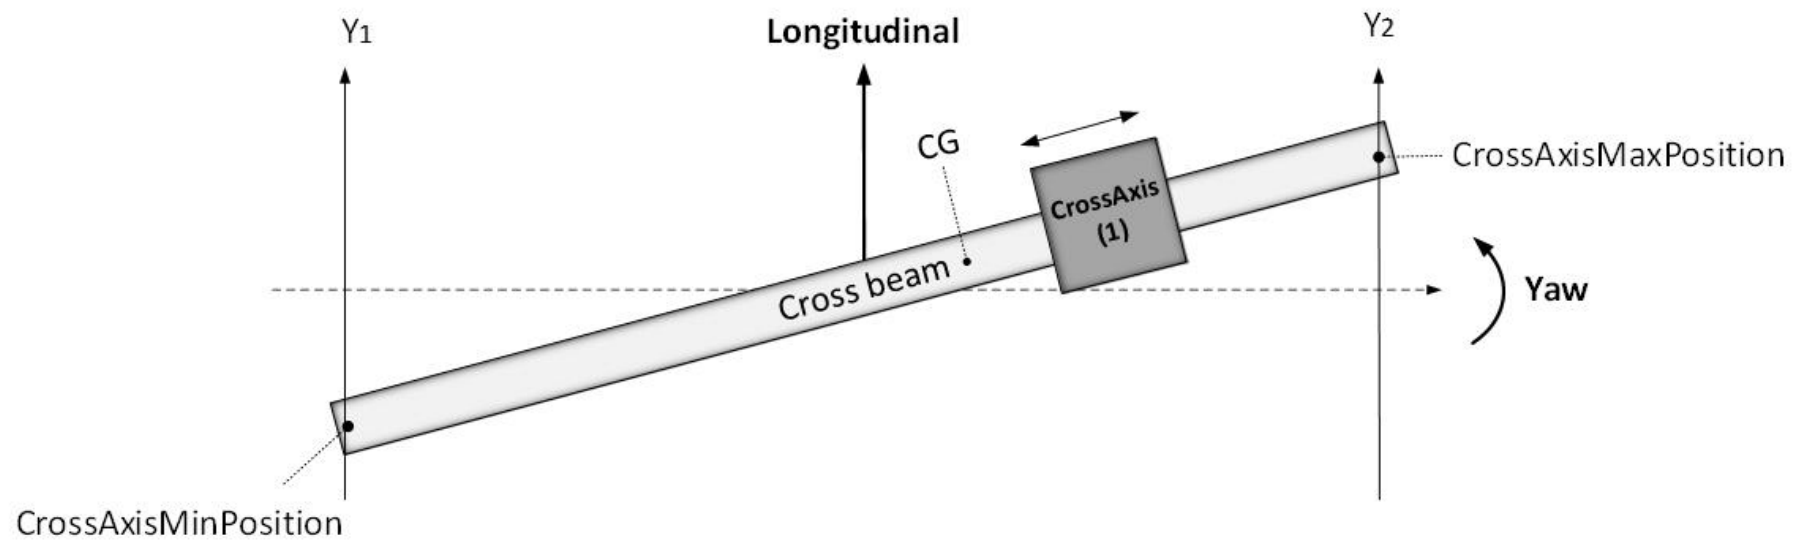

Figure 5-1. Cross Coupled System Example
- > CrossAxisMaxPosition and CrossAxisMinPosition represent the maximum and minimum values on the cross beam in the coordinate system of the CrossAxis (see Figure 5-1). Therefore, the difference between the CrossAxisMaxPosition and the CrossAxisMinPosition of all the cross axes should be identical.